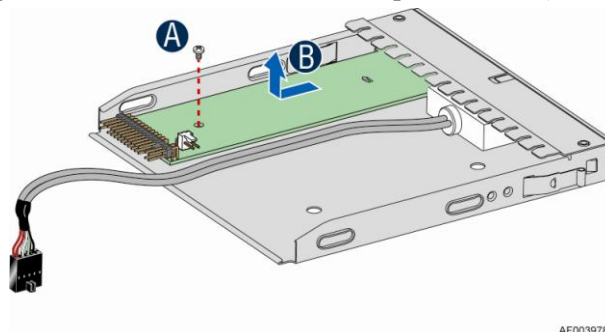

Figure 6. Removing the Front Panel Board
4. Slide the front panel out far enough so that you can loosen the screw (see letter **A** in Figure 6) securing the front panel board and remove the front panel board (see letter **B** in Figure 6).